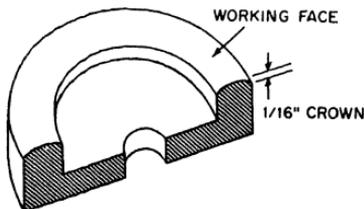

Figure 6-11.—Crown on the working face of a wheel for a carbide tool bit grinder.
Unlike the pedestal grinder where the grinding is done on the periphery of the wheel, the carbide tool bit grinder has the grinding done on the side of the wheel. The straight cup wheel (fig. 6-11) is similar to the wheels used on most carbide tool bit grinders. Some carbide tool grinders have a straight cup wheel on one side of the grinder and a straight wheel, such as the type used on a pedestal or bench grinder, on the other side.
- Dress the silicon carbide wheel with a star type wheel dresser. Form a $1/16$ -inch crown on the working face of the wheel to minimize the amount of contact between the tip and the wheel (fig. 6-11).